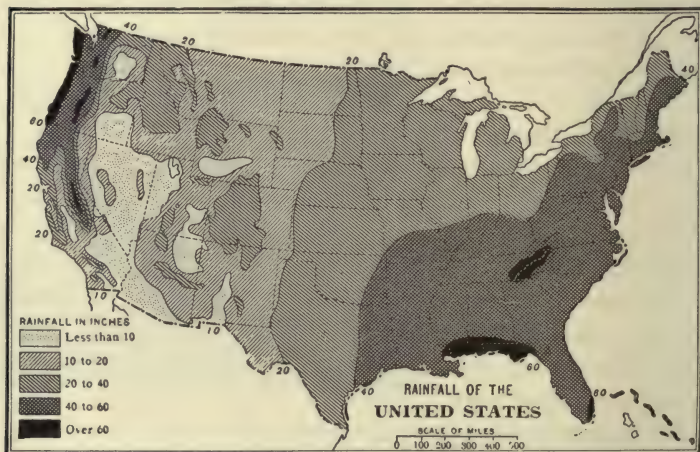

FIG. 268. — Map showing annual rainfall.
**Rainfall.** — Heat and rainfall, including both snow and rain, are the most important factors in climate. In certain parts of the state of Washington the rainfall is so heavy that it amounts to over 60 inches or 2 yards a year; in certain parts of Nevada, California, and Arizona the rainfall is so scant that it amounts to less than 10 inches in a year (Fig. 268). We get the exact quantity of rain that falls in a region by placing a straight-sided bucket, or rain gauge, out of doors during rains